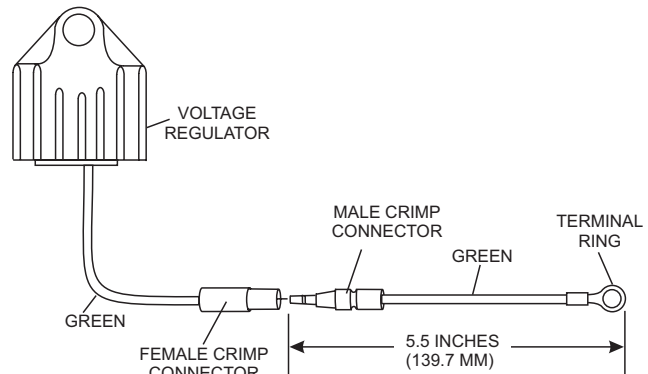

Figure 8. Regulator Green Wire Connection
15. Remove the GREEN 5.5-inch wire from the kit. Insert the male crimp connector of this wire (Figure 8) into green wire on the voltage regulator with the female crimp connector.